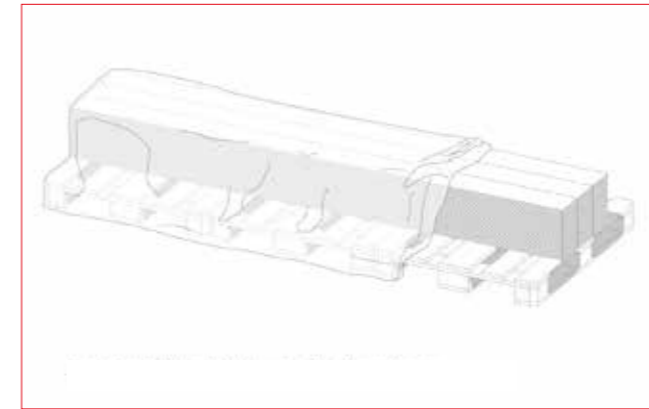

fig.6 – Cover during storage
- During conditioning, VIVIX Lap planks should be stored horizontally on flat pallets or bearers on a level surface and should be covered to limit moisture build-up, whilst ensuring adequate ventilation (see fig.6)